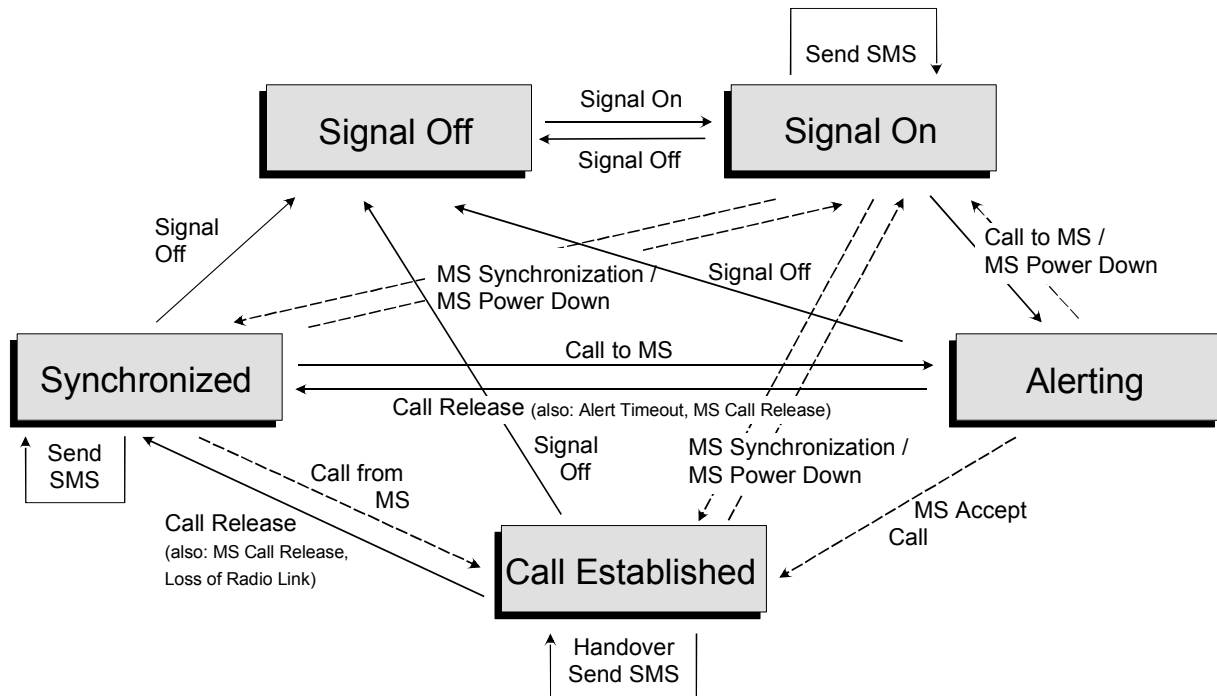

Fig. 4-45 Signalling states of the CMU (circuit switched mode)
A number of control commands which can be initiated both by the CMU (*Connect Mobile, Mobile Terminating Call*) and by the mobile station (*Call from MS, Mobile Originated Call*) switch between these states (the dashed lines in Fig. 4-45 denote processes initiated by the mobile station).
The connection scheme described in this section is designed and valid for circuit switched traffic (GSM, HSCSD or EDGE). With option CMU-K42(-K43), the CMU is also able to test the packet switched operating mode of mobile phones supporting (E)GPRS. (E)GPRS is an additional mode of the MS so that the circuit switched GSM signalling scheme of Fig. 4-45 above is complemented by a largely independent GPRS signalling scheme. For a detailed description of the CMU (E)GPRS functionality see section GPRS Signalling on p. 4.269.
The popup menu *Connection* (*Signal Off*) is opened when the function group *GSM-MS Signalling* is selected, or if the control channel signal is switched off (*Signal Off* softkey) while the system is in another signalling state. It is replaced by the *Connection* (*Signal On*) menu after the control channel signal on the CMU is switched on (Softkey *Signal On*, see Fig. 4-45).
The popup menu *Connection (Signal On)* is opened after the control channel signal of the CMU is switched on (Softkey *Signal On* in the popup menu *Connection (Signal On)*). It is replaced by the *Connection (Synchronized)* menu after the mobile station initiates a location update by itself. It is replaced by the *Connection (Call Established)* menu if the mobile station sets up a call to the CMU. It is replaced by the *Connection (Alerting)* menu if a mobile is called via the *Connect Mobile* softkey (see Fig. 4-45).